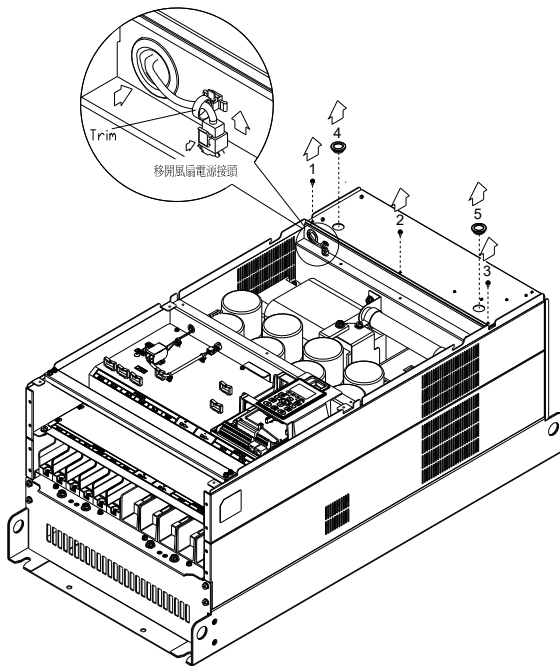

Figure 3
(3) Loosen screw 1,2,3 and remove the protective ring (as shown in figure 3) Screw torque: 14~16 kg-cm / [12.2~13.9 lb-in.] / [1.4~1.6 Nm]